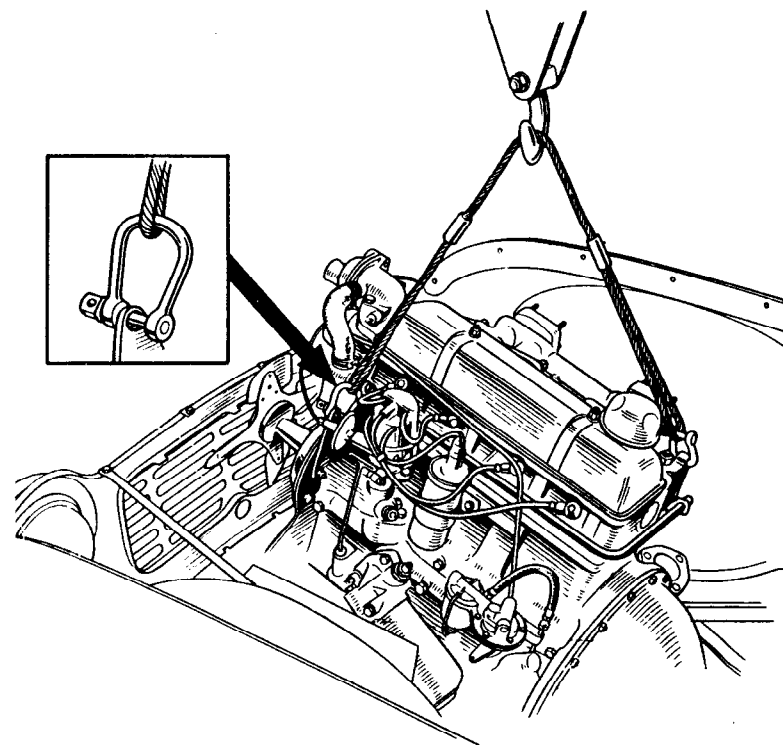

Fig. 10. Removing the TR engine from the TR4 with the aid of a sling
8. Attach lifting gear in a way such that the engine will lift at the front at an angle of 35°-40°, see Fig. 10.